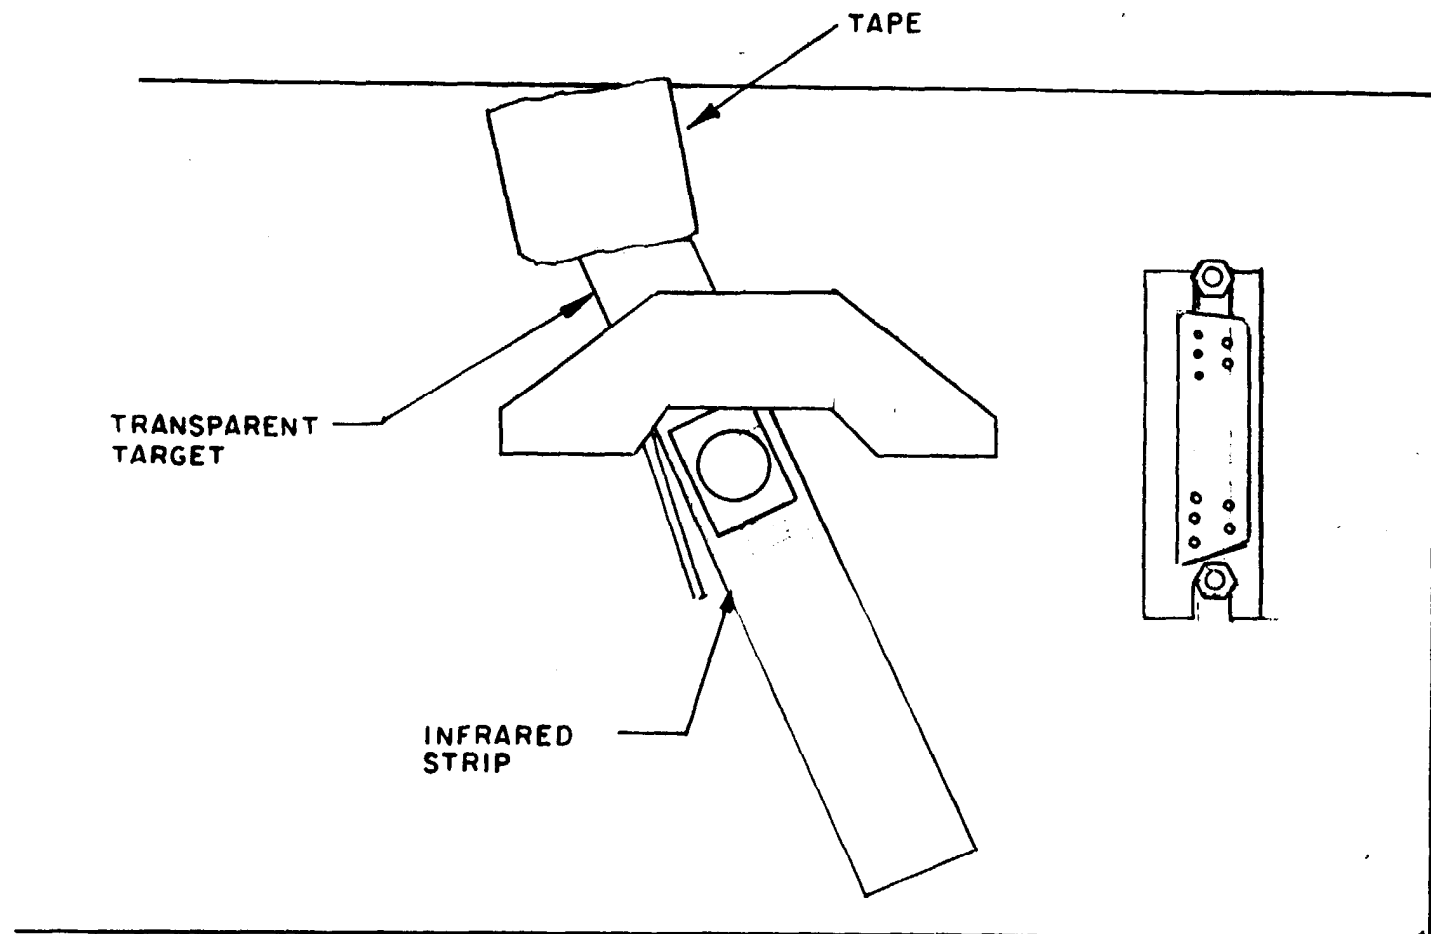

FIGURE 2
8. Slide the infrared strip between the mirror and target (see figure 2). You may have to trim about 3/16 inch from either side of the clear plastic material next to the 3/4-inch square sensitive area.